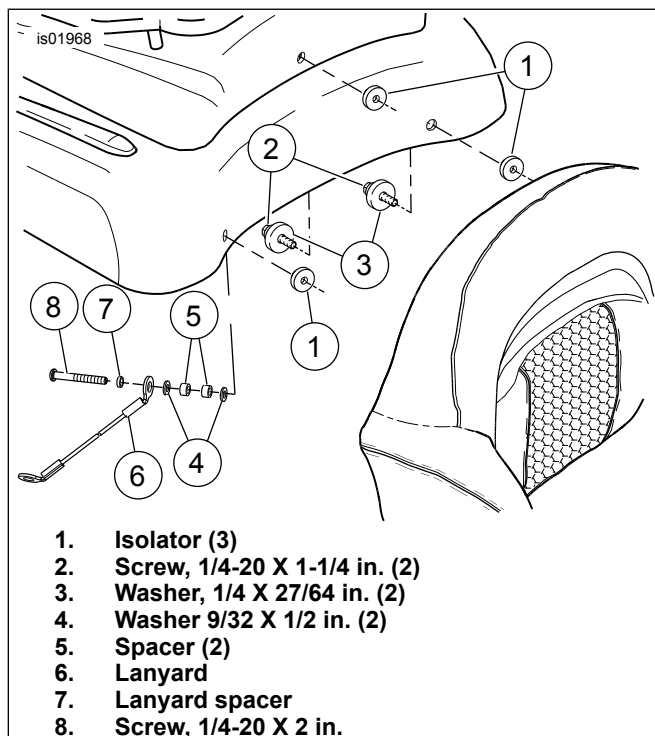

Figure 4. Backrest Installation
See Figure 4 for Steps 1-4.
2. Insert three isolators (1) into the three backrest mounting holes in the Tour-Pak lid.
3. Install the Tour-Pak backrest to the Tour-Pak lid with two screws (2) and washers (3). Tighten screws to 2.8 N·m (25 in-lbs).
4. Install screw (8) into the backrest through the lanyard spacer (7), lanyard (6), two plastic spacers (5) and two washers (4) in the order shown in Figure 4. Tighten screw to 2.8 N·m (25 in-lbs).